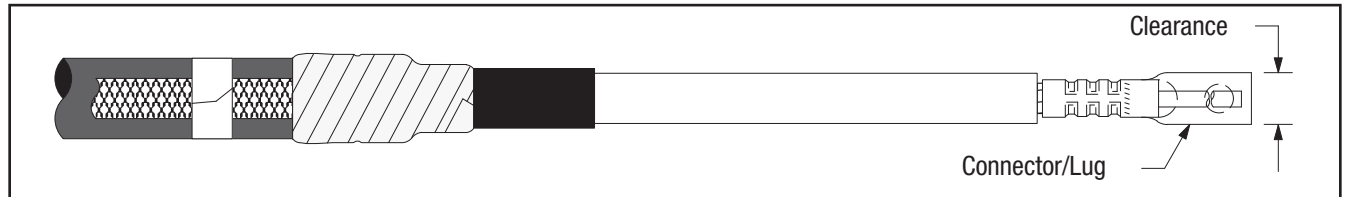

Figure 14
- 9.1 Check to insure 3M Cold Shrink QT-III Silicone Rubber Termination assembly fits over the selected lug or connector BEFORE installing the lug or connector.** If lug or connector (Figure 14) will not fit through the termination core, clean the insulation (per Step 10.0) and slide termination on cable before installing lug. **DO NOT REMOVE CORE AT THIS TIME.**